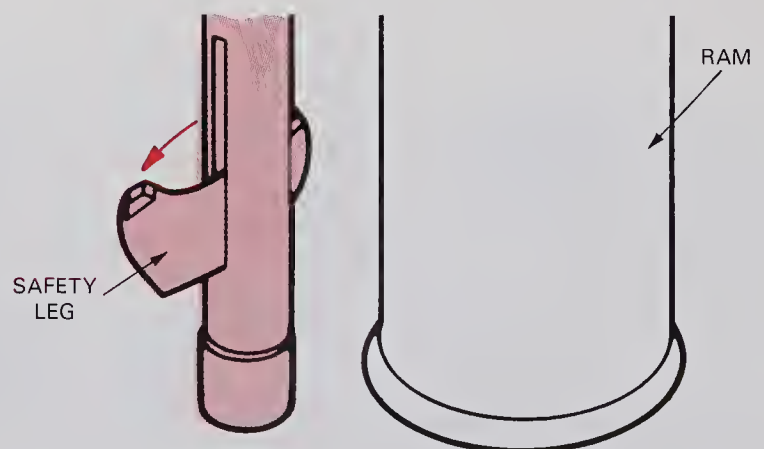

Fig. 5-4. Most lifts have a safety catch. It must be engaged before working under car. (Ford)
4. Make sure the safety catch is engaged. Do not walk under the lift without the catch locked into position, Fig. 5-4.